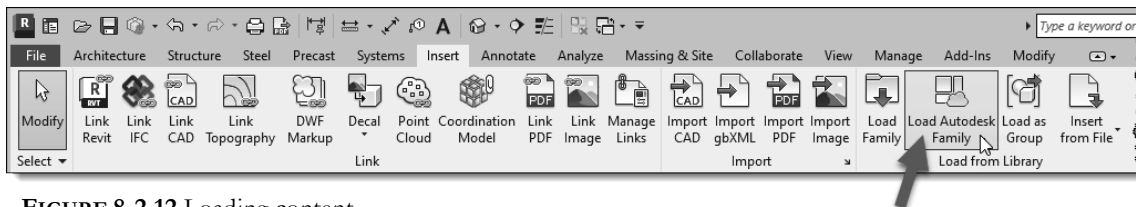

FIGURE 8-2.12 Loading content
31. Click **Insert** → **Load Autodesk Family** from the *Ribbon* (Figure 8-2.12).